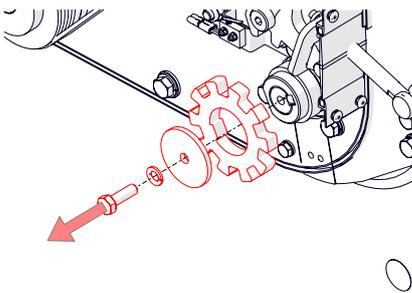

Fig.20H - Remove the castellated parking brake.
11. On the LH side, locate the castellated parking brake disc. Remove the hex screw securing this [13mm spanner] (Fig. 20H - the shoulder bolt securing the brake may need to be removed prior).